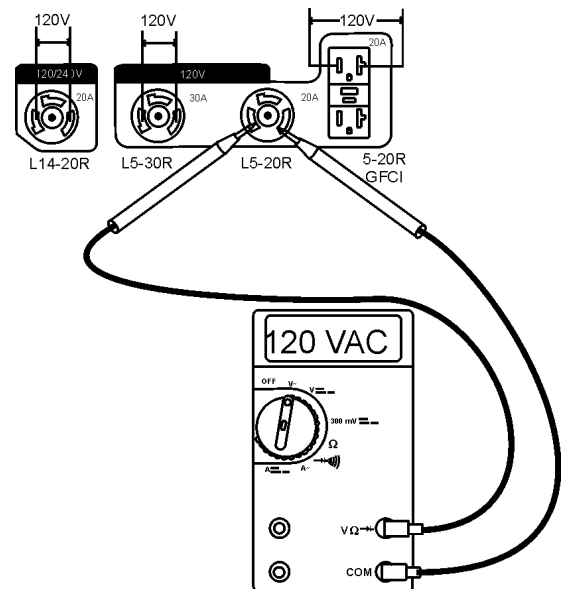

Figure 18. 120 VAC Receptacles
11. If desired, verify with a voltmeter (Figure18) that 120 VAC is present at the GFCI receptacle and all three twist-lock receptacles as shown below.